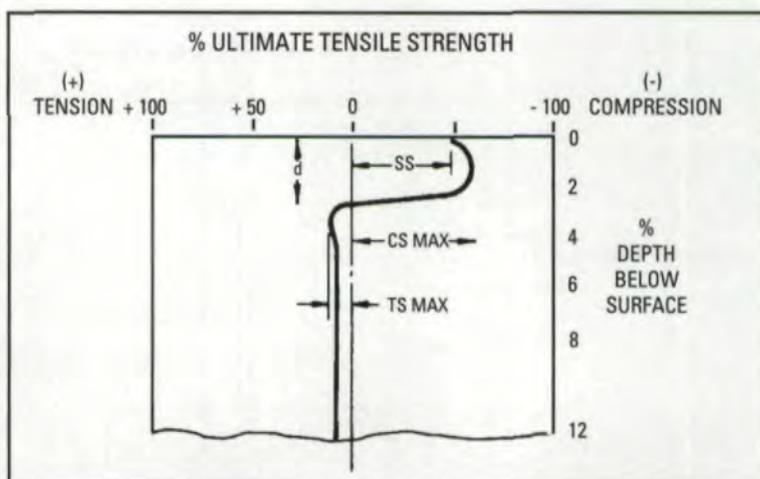
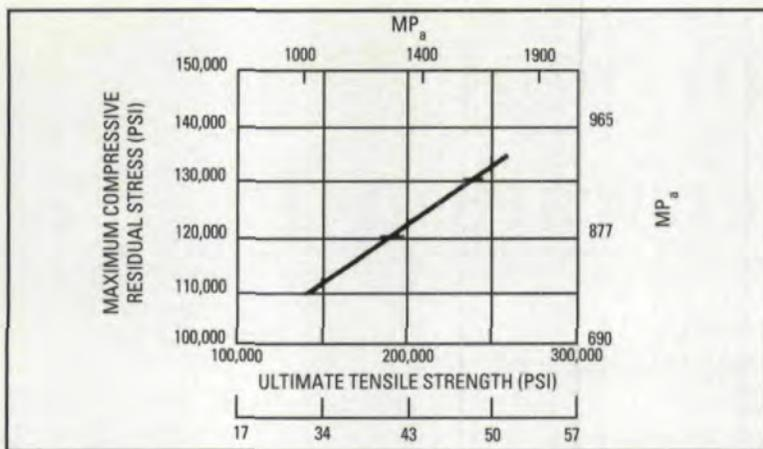

Fig. 1 - Example of residual stress profile created by shot peening.
Fig. 2 - Residual stress produced by shot peening vs. tensile strength of steel.
Shot peening, by definition, is the bombardment of a surface of a material by small spherical media (the shot) to produce a thin layer of high magnitude residual (or self) compressive stress. This residual or self stress is introduced into a material prior to any actual application of loads to a component. The magnitude and depth of these compressive stresses are predictable. As shown in Fig. 1,(5) the maximum compressive stress usually occurs at some distance below the peened surface, which is represented by the top horizontal line. Typically, this magnitude of compressive stress (CS MAX) is approximately 50-60% of the ultimate tensile strength of the material, as shown in Fig. 2.(6) (Dual intensity peening can move the CS MAX closer to the surface of the peened material.) Since this method is not typically employed, Fig. 1 is adequate for this discussion. The "d" represents the depth of compression or the point at which